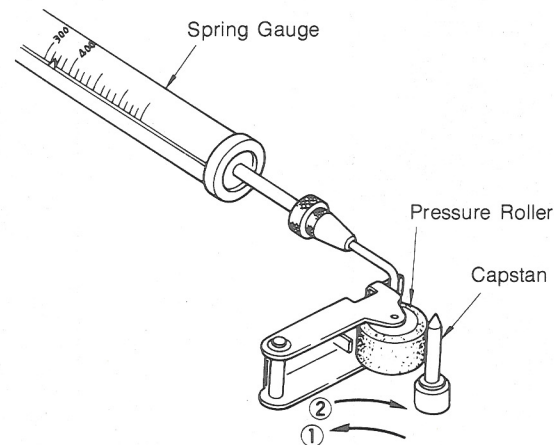

FIG. 14
2. Hook Spring gauge to arm pressure rollers, as shown in Fig. 14.